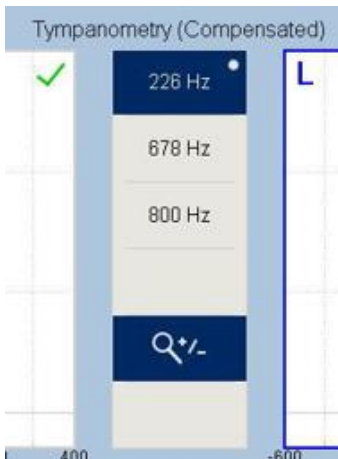

Figure 43
- **RaceCar** : to display **RaceCar** animation during testing. See Section 5.3.4.3 for more information (Figure 43).